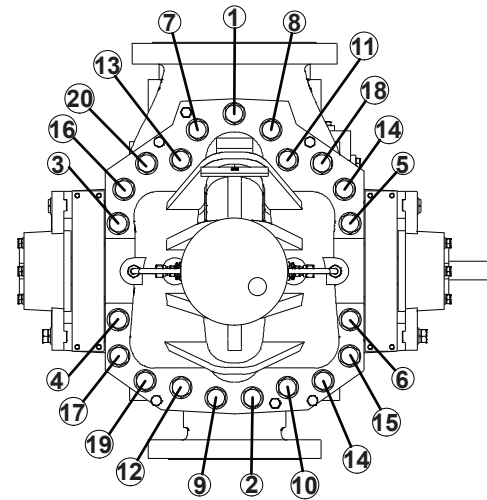
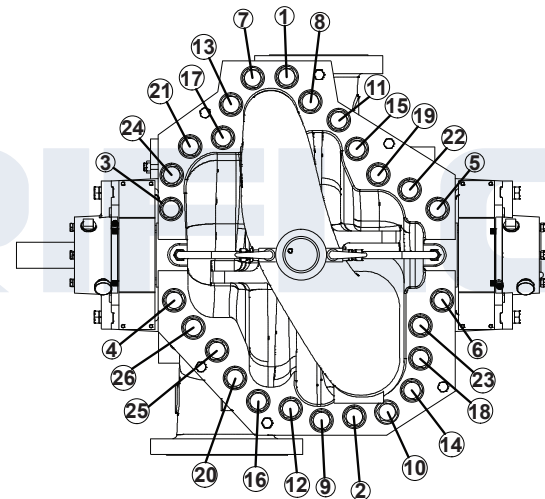

FIGURE 14 - SC BOLT TIGHTENING SEQUENCE
FIGURE 15 - SC(2) BOLT TIGHTENING SEQUENCE
Refer to TABLE 3 for all bolt tightening torque information. Refer to FIGURE 14 (SC) and FIGURE 15 (SC(2)) for bolt tightening sequence.